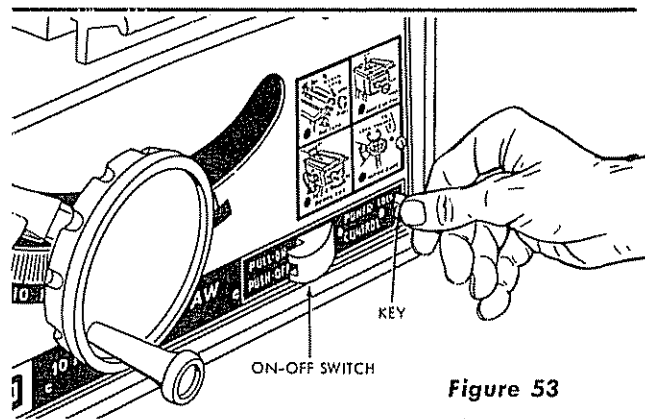

Figure 53
6. **Key** — located at lower right of saw base, alongside the ON-OFF switch, to lock the switch and prevent unauthorized persons turning on the saw. The key must be in the lock before the ON-OFF switch can be turned on. (See figure 53.)